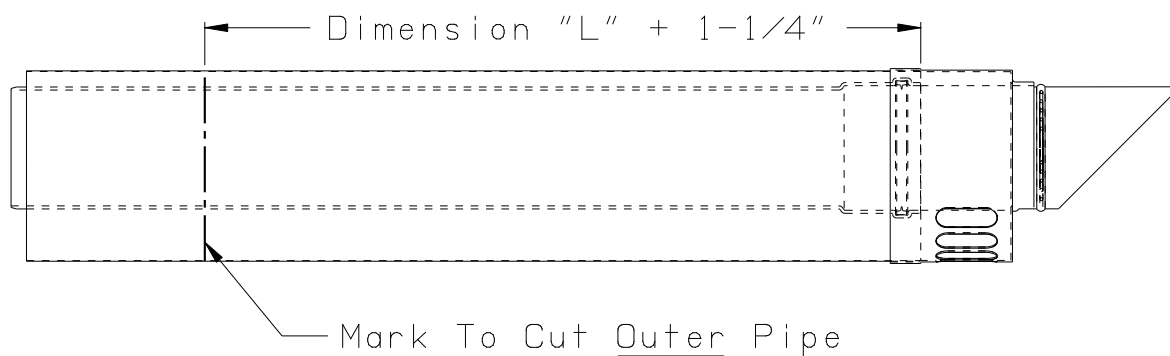

Figure 7.34b: Cutting Outer Pipe Of 80/125mm Horizontal Terminal
- c) Add 1-1/4" to distance "L". Carefully mark this length on the pipe as shown in Figure 7.34b.